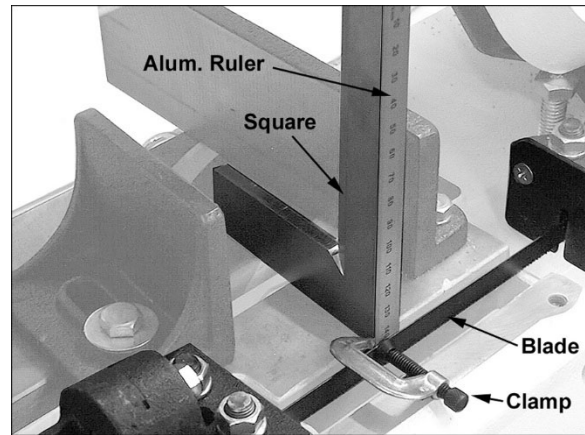

Figure 8-14: table/blade squareness
- “Extend” the blade surface by clamping a straight, flat object to blade. (Figure 8-14 uses small, lightweight aluminum ruler.) Use lightweight clamp.